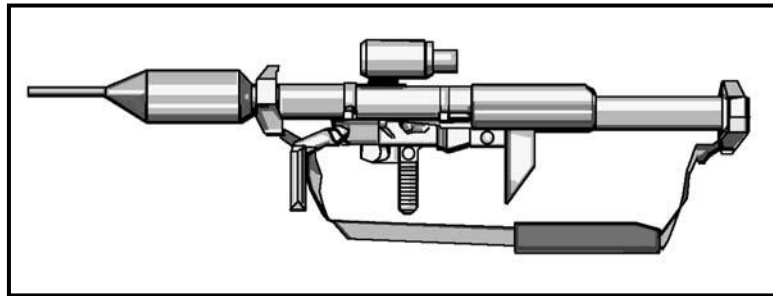

Figure H-8. German 60-mm antitank grenade launcher, Panzerfaust-3.
c. German 60-mm Antitank Grenade Launcher, Panzerfaust-3 (Figure H-8).